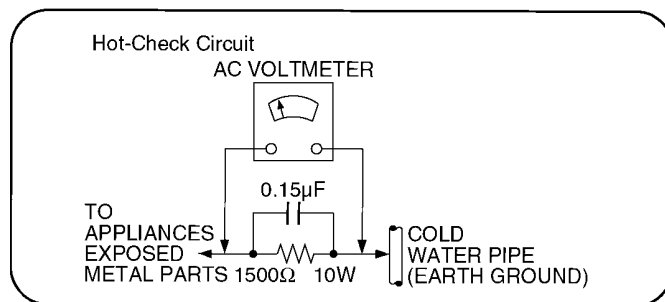

Figure 1
2.1.2. Leakage Current Hot Check (See Figure 1.)
2. Connect a 1.5kΩ, 10 watts resistor, in parallel with a 0.15µF capacitors, between each exposed metallic part on the set and a good earth ground such as a water pipe, as shown in Figure 1.